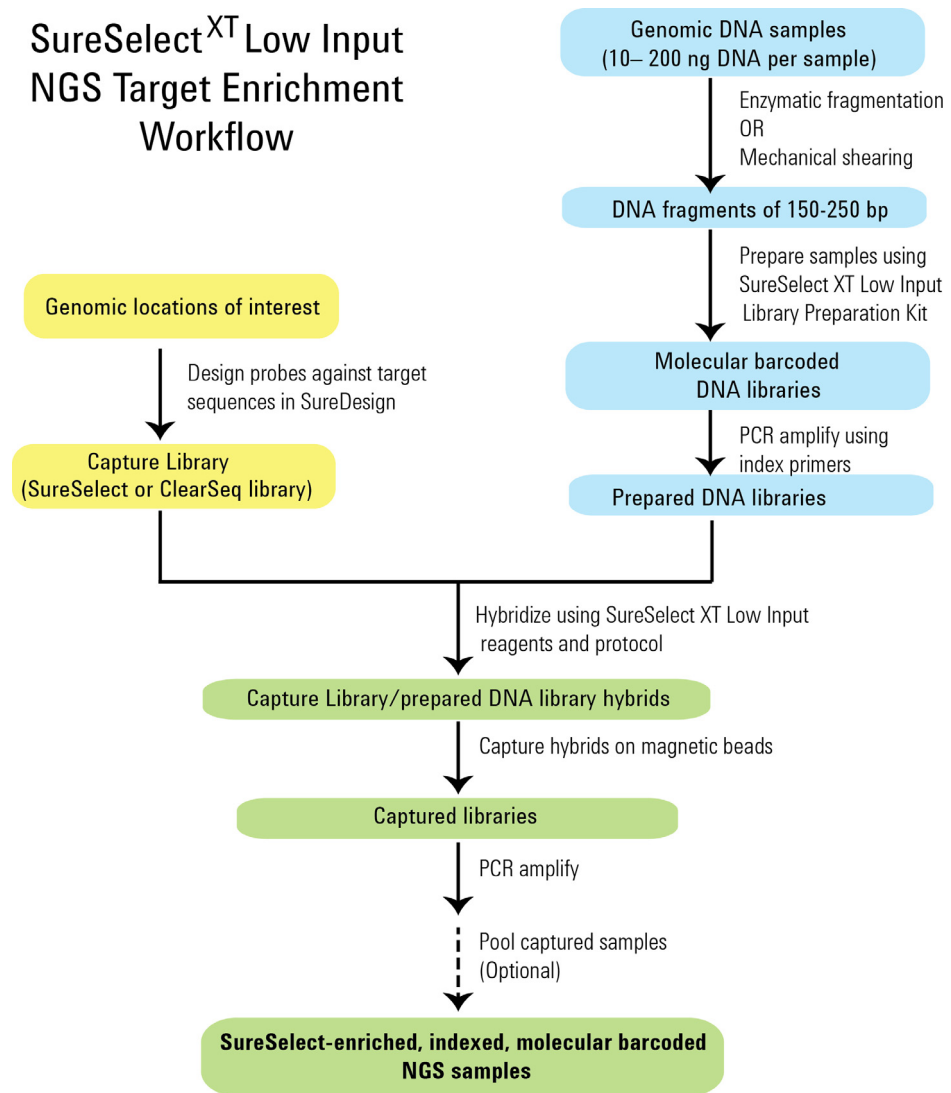

Figure 2 Overall sequencing sample preparation workflow.
Figure 2 summarizes the SureSelect^{XT} Low Input target enrichment workflow for samples to be sequenced using the Illumina paired-read sequencing platform. For each sample to be sequenced, individual library preparations, hybridizations, and captures are performed. Depending on the target size of the SureSelect capture, multiple samples can be pooled and sequenced in a single lane using the 8-bp SureSelect^{XT} Low Input multiplex indexes.
- Samples are P7-indexed during pre-capture amplification (see Figure 2). Assign each sample to the appropriate P7-indexing primer during experimental design, and place the sample in the well corresponding to its assigned primer. See Table 98 and Table 99 on page 125 for indexing primer plate maps. When preparing dual-indexed libraries, the pre-optimized index pairs are incorporated by using primers from the same well position of the P5 Indexed Adaptors plate and the P7 Indexing Primers 1-96 plate. Importantly, the P5 Indexed Adaptors are not optimized for use with P7 Index Primers 97–192 (supplied with Reagent Kit p/n G9703B).
- At the hybridization step (see Figure 2), you can add a different Probe Capture Library to each row of the plate. Plan your experiment such that each prepared DNA library corresponds to the appropriate probe row in the sample plate.
- For post-capture amplification (see Figure 2), different probes can require different amplification cycle numbers, based on the probe design sizes. It is most efficient to process similar-sized probes on the same plate. See Table 70 on page 91 to determine which probes may be amplified on the same plate.
For an overview of the SureSelect^{XT} Low Input target enrichment workflow, see **Figure 2** on page 28. This section contains instructions for automated gDNA library preparation for the Illumina paired-read sequencing platform. For each sample to be sequenced, an individual indexed and molecular-barcoded library is prepared.